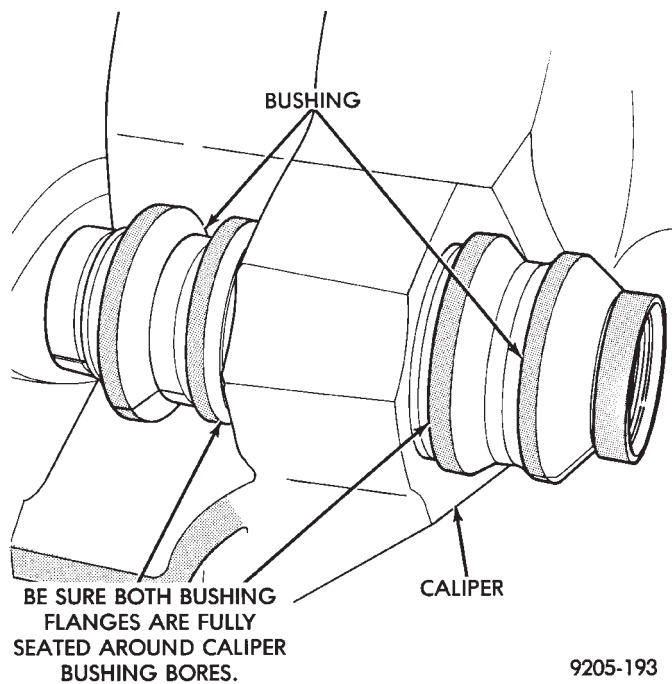

Fig. 157 Bushing Correctly Installed In Caliper
(3) Unfold the bushing using your fingers or a wooden dowel until the bushing is fully seated into the caliper housing. Flanges should be seated evenly on both sides of the bushing hole (Fig. 157).